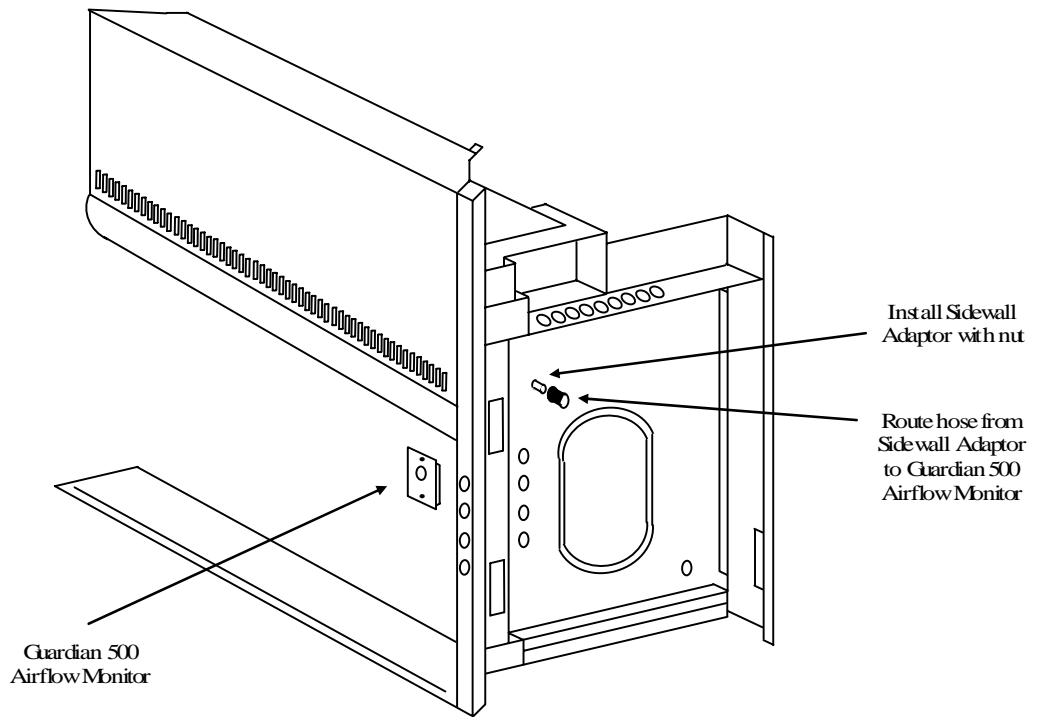

Figure 3
- b. Cut the white hose (1.0” OD x .79” ID) supplied with your monitor. Connect one end of the hose to the sidewall adaptor. See Figure 3.
- c. Connect the other end of the white hose to the air monitor. This completes the airway connection per figure 3.